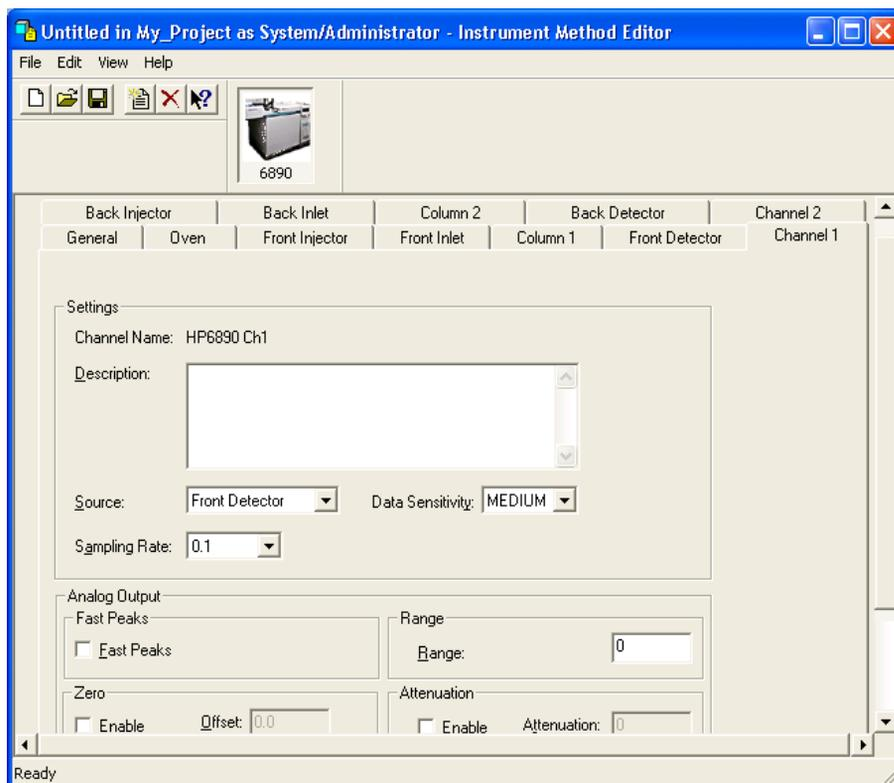

Figure 3-9 Instrument Method Editor, 6890, Channel 1 Tab
10. Click the **Channel 1** tab. The Channel 1 tab appears (Figure 3-9).